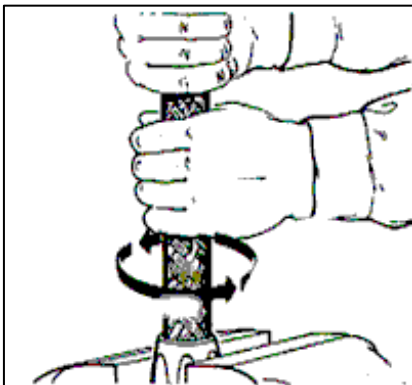

Figure 2.0
**Step 2:** Clamp the outer ferrule carefully in a bench vice. Twist the silicone hose by hand into the ferrule. It is designed to be a secure fit. Take Care to assure that the silicone hose is absolutely dry when inserting into the outer ferrule. See Figure 2.0